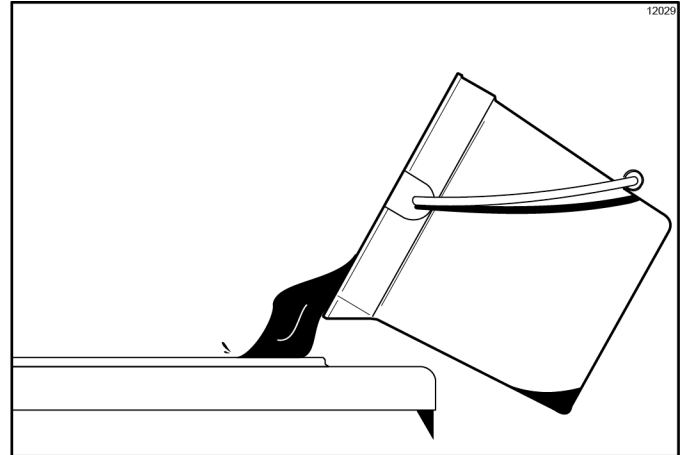

Figure 6-57
1. Pour 2-1/2 gal (9.5 L) of cool, clean water into the mix hopper. Using the white hopper brush, scrub the mix hopper, mix-level sensing probes and the outside of the agitator driveshaft housing. With the double-ended brush, brush-clean the mix inlet hole. (See Figure 6-57.)